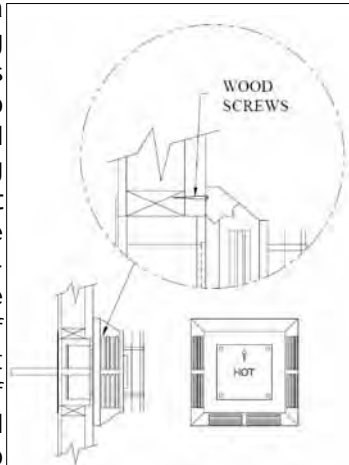

Figure 36: Fastening Horizontal Termination Cap in Place.
- (1) Any horizontal run of vent must have a ¼ inch (6mm) rise for every 1 foot (305mm) of run towards the termination. Never allow the vent to run downward. This could cause high temperatures and may present the possibility of a fire.
- (2) The location of the horizontal vent termination on an exterior wall must meet all local and national building codes, and must not be easily blocked or obstructed. Termination clearances must comply with the VENT TERMINATION RESTRICTIONS section.
Step 4. For a Square Horizontal Vent Termination, place the vent cap in the center of the square hole and attach to the exterior wall with the four wood screws provided (refer to Figure 36). Before attaching the Vent Termination to the exterior wall, run a bead of non-hardening sealant around its outside edges, so as to make a seal between it and the wall. If you are using Round Horizontal Vent Termination, place an exterior Wall Fire-stop over the square hole. Run a bead of non-hardening sealant around the edges of the Wall Fire-stop, and attach the Wall Fire-stop to the wall with the four wood screws provided. The arrow on the vent cap should be pointing up. Ensure that proper clearances to combustible materials are maintained.